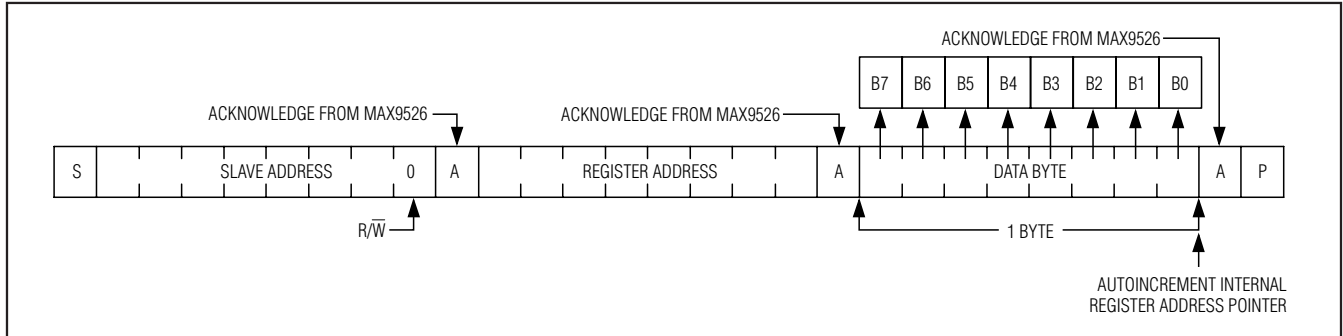
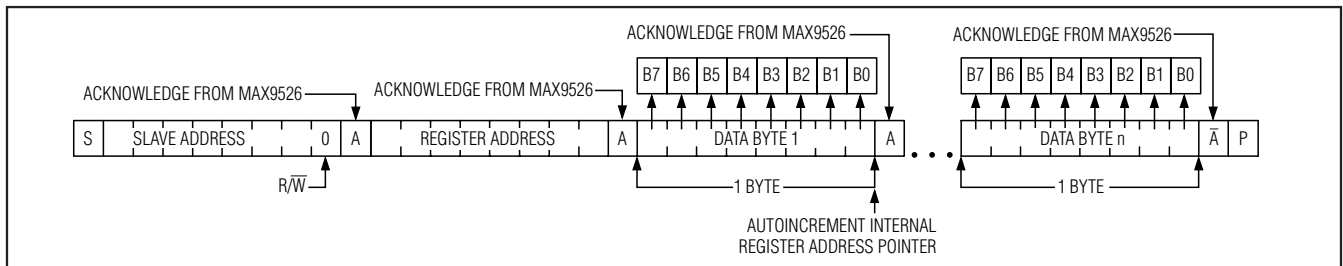

Figure 12. Writing a Byte of Data to the MAX9526
Figure 13. Writing n Bytes of Data to the MAX9526
A write to the MAX9526 includes transmission of a START condition, the slave address with the R/W bit set to 0, one byte of data to configure the internal register address pointer, one or more bytes of data, and a STOP condition. Figure 12 illustrates the proper frame format for writing one byte of data to the MAX9526. Figure 13 illustrates the frame format for writing n bytes of data to the MAX9526.
The third byte sent to the MAX9526 contains the data that is written to the chosen register. An acknowledge pulse from the MAX9526 signals receipt of the data byte. The address pointer autoincrements to the next register address after each received data byte. This autoincrement feature allows a master to write to sequential registers within one continuous frame. Figure 13 illustrates how to write to multiple registers with one frame. The master signals the end of transmission by issuing a STOP (P) condition.